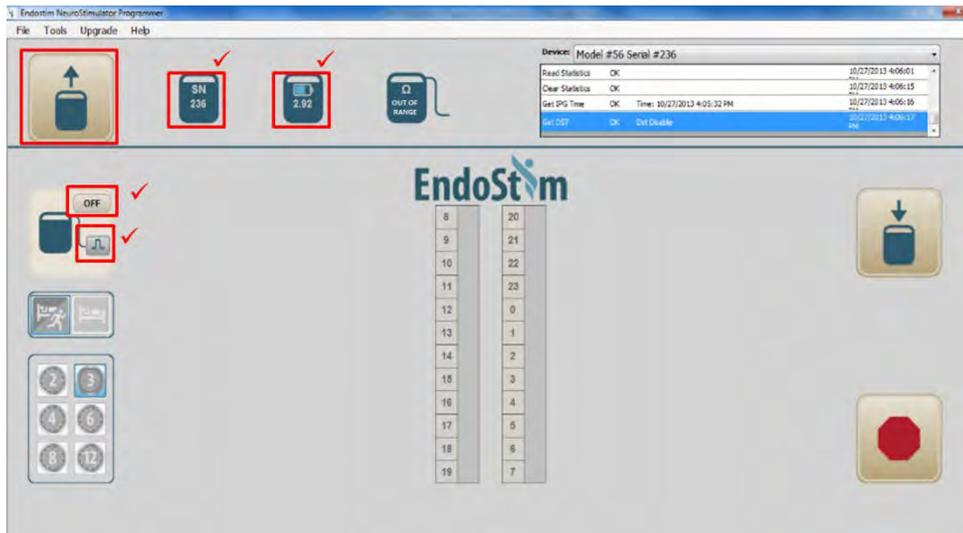
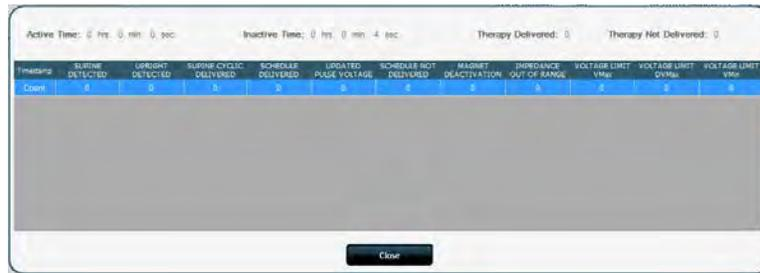

Figure 33 Initial Parameter Settings – IPG Interrogation
Figure 35 IPG Interrogations – Statistics Window
1. Click on the “Interrogate” icon  at the far left of the Information section (Figure 33). The remaining 3 icons in the Information section of the Programmer screen should be filled in with appropriate values as shown in Figure 35.